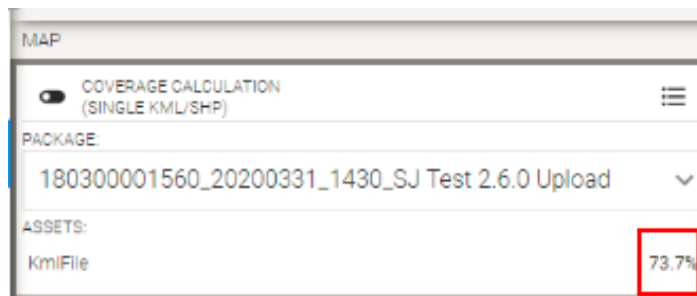

Figure 114 Real-Time or Archival Package Coverage Calculation
- d Click **Confirm**: The real-time or archival package coverage is displayed (see Figure 114).